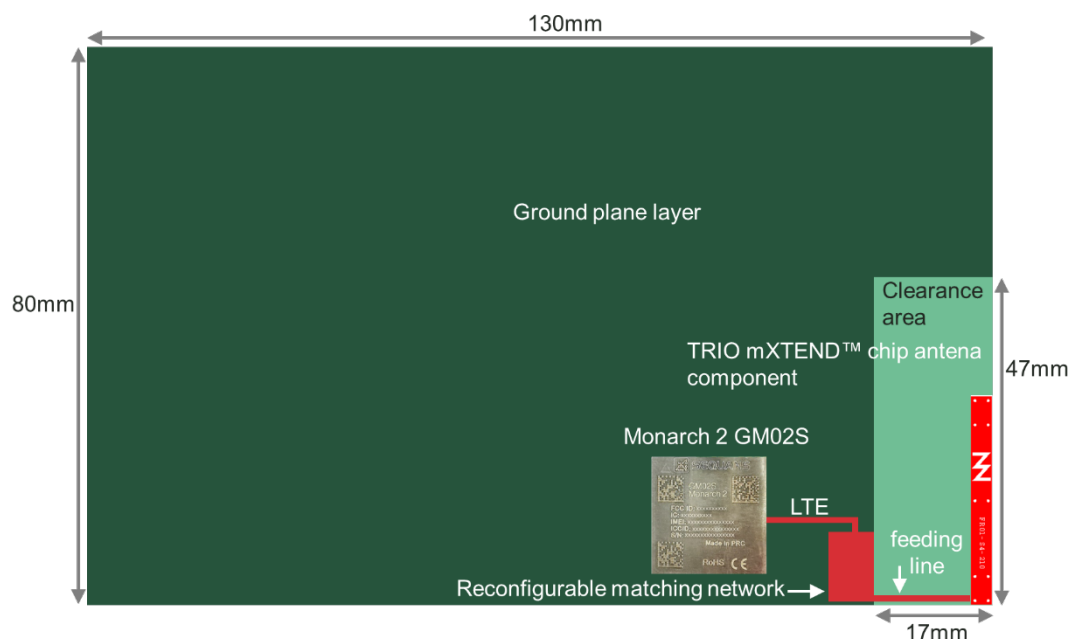

Figure 1 – Layout recommendations
On its starter configuration, NEKTAR-B has been optimized following these general guidelines and recommendations (Figure 1):
1. **Antenna placement:** Place the TRIO mXTEND™ (NN03-310) chip antenna component as close as possible to a PCB corner aligned with the longest side of the PCB. On the other hand, place the antenna as far as possible from other components, such as LCDs, batteries, connectors, especially those components and covers with metallic characteristics (see suitable placement in Figure 1).